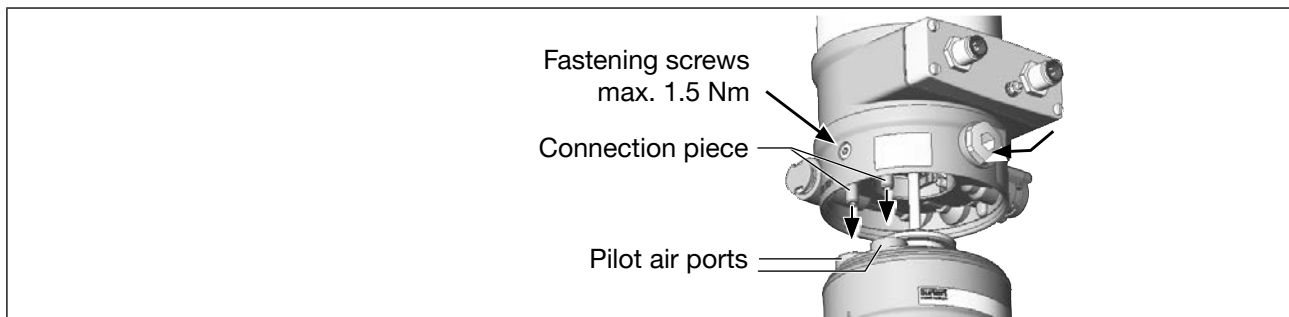

Fig. 15: Aligning the pilot air ports
1. Align the pilot air ports of the actuator with the connection pieces of Type 8692/8693 (see “Fig. 15”).